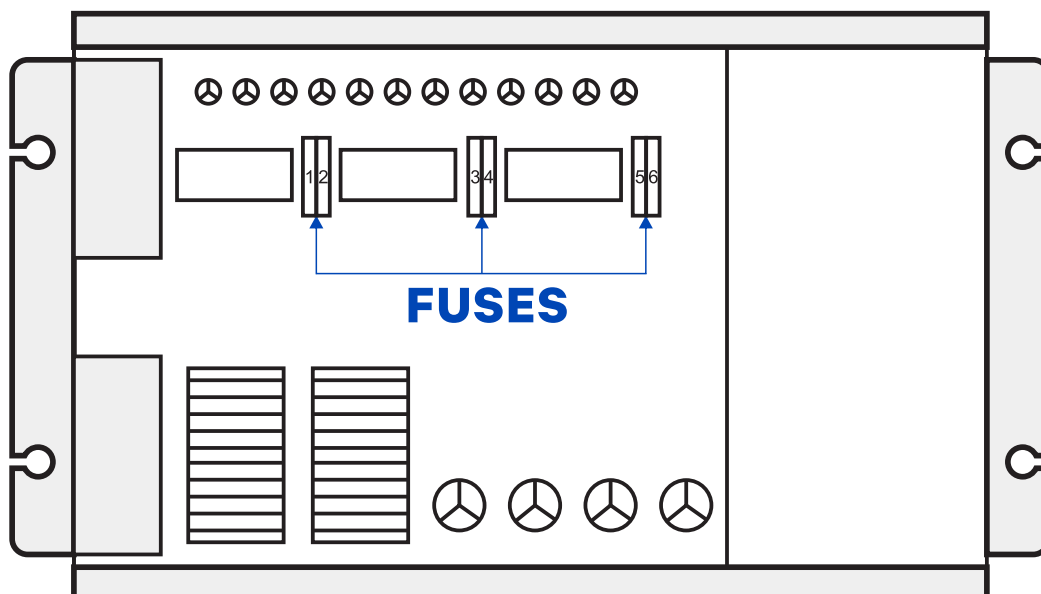

Figure 2.
5. Using nipper pliers or a similar tool, gently pull out the fuse(s) to be replaced(see Figure 2.).